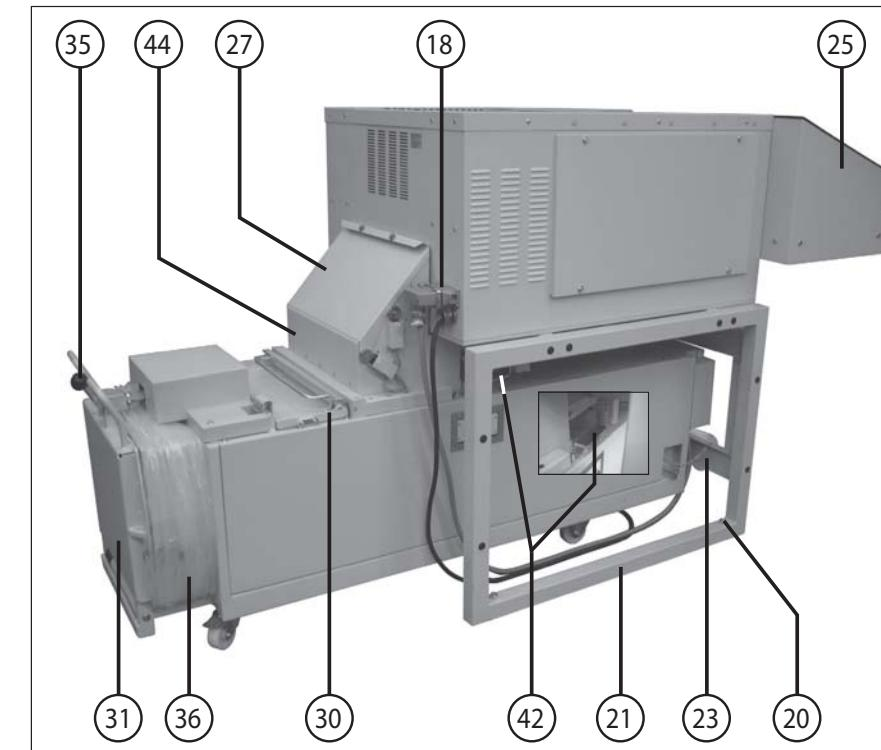

fig. 2
6. Compensate for unevenness in the floor with the levelling screw (20) (fig. 2).
- 18 = electrical outlet (fig. 2)
- 20 = leveling screw (fig. 2)
- 27 = cover flap (fig. 2 and 5)
- 29 = switch cabinet (fig. 2)
- 30 = inlet flap (fig. 2)
- 31 = discharge flap (fig. 2)